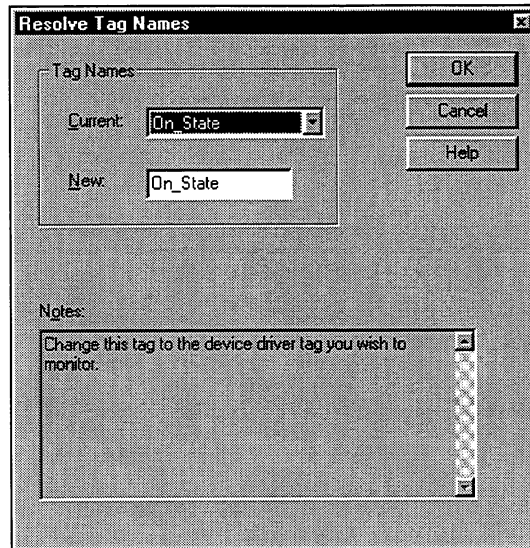

Figure 4-11. Resolve Tag Names Dialog Box
6. The Resolve Tag Names dialog box appears, as shown in Figure 4-11.